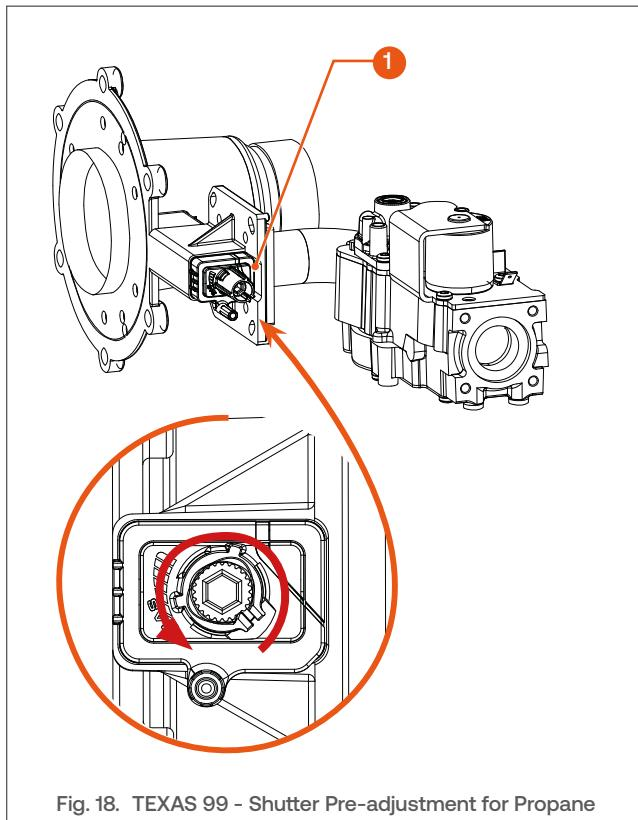
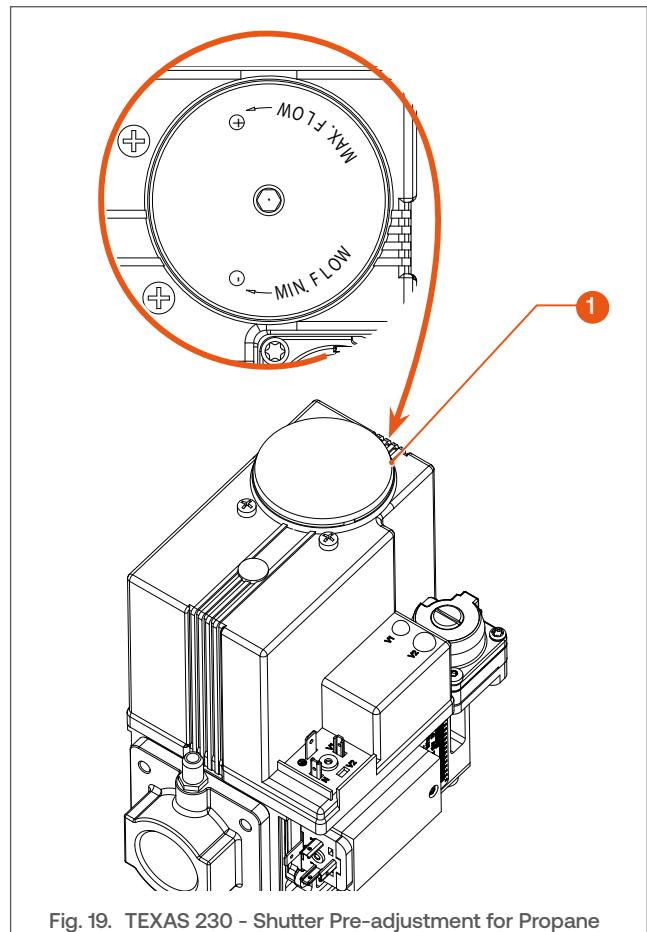

Fig. 18. TEXAS 99 - Shutter Pre-adjustment for Propane
Fig. 19. TEXAS 230 - Shutter Pre-adjustment for Propane
- Conversion to Propane only:** rotate the gas valve shutter screw (1) as shown in **Fig. 18 & Fig. 19 below:**